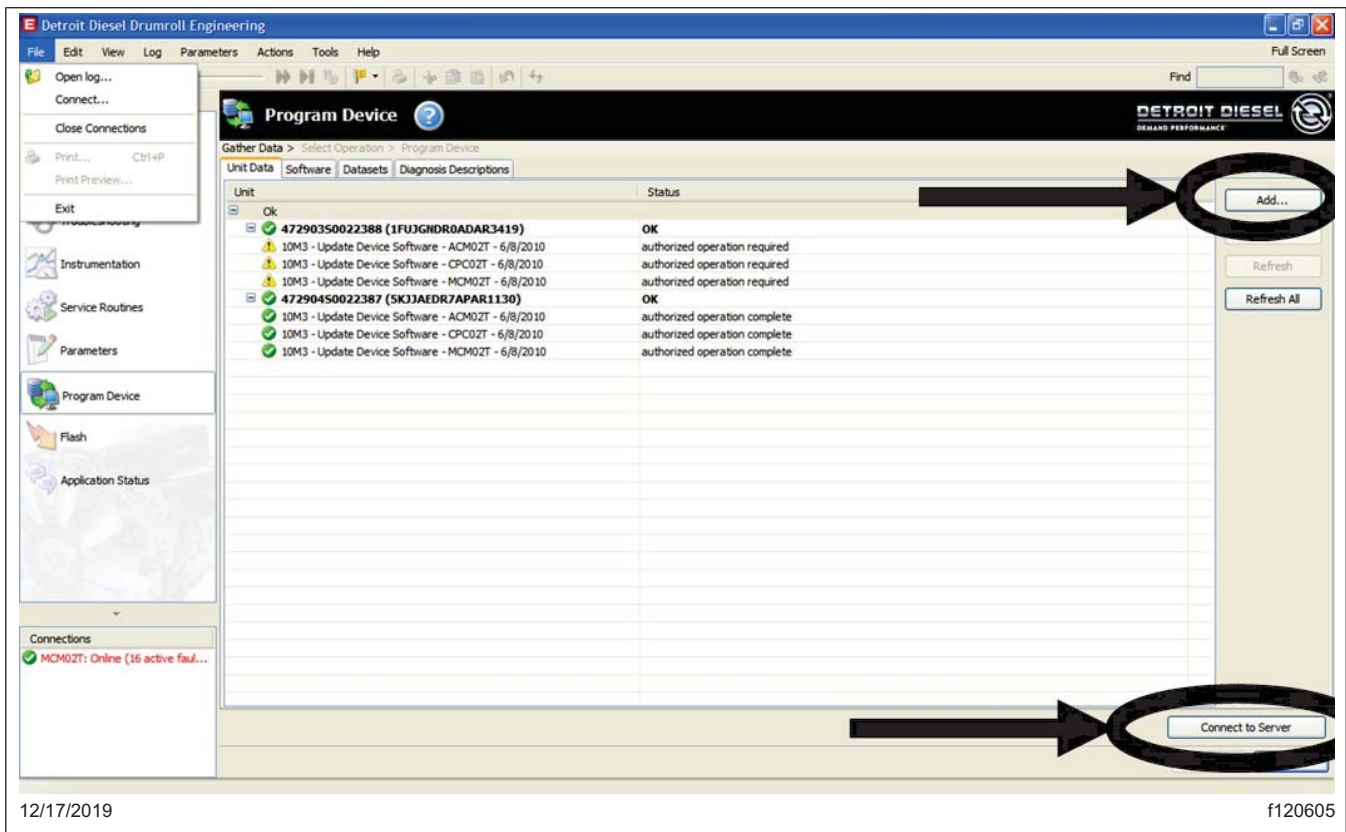
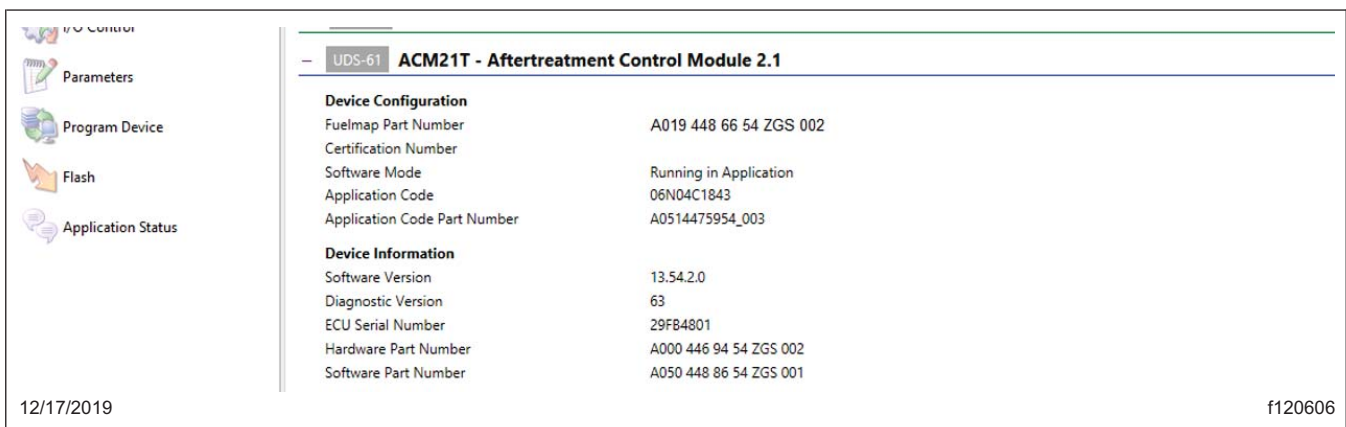

Fig. 5, DiagnosticLink® Identification Screen (CPC/MCM)
Fig. 6, DiagnosticLink® Identification Screen (ACM)
5. On the Identification screen, check the current MCM, ACM and CPC software level. Listed below are the MINIMUM software levels and fuel map part numbers required. See Fig. 5 and Fig. 6 for examples of the Identification screen.